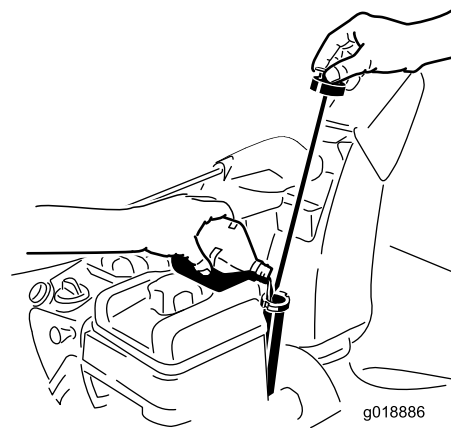

Figure 12
1. Remove the dipstick and **slowly** pour oil into the oil fill tube to raise the oil level to the Full mark on the dipstick. **Do not overfill** (Figure 12). Refer to Checking the Engine Oil Level in Maintenance.